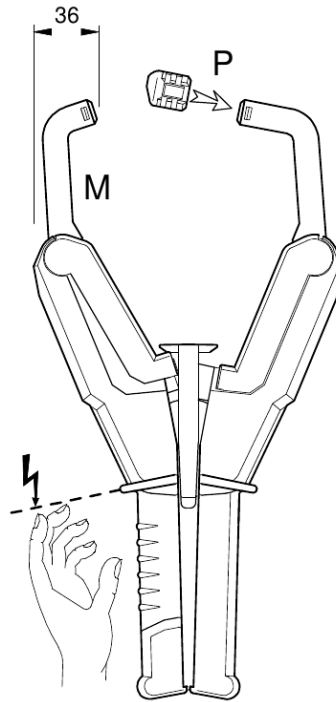

Figure 2.41: Protection against electric shock and short-circuit
- Use safety cover 'P' Figure 2.41 [→40] for protection against short-circuits during clamping!